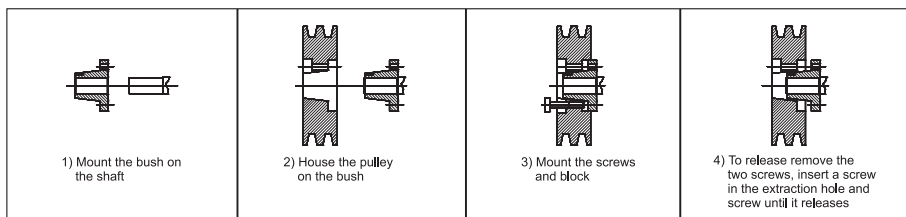

FIG. 25 (Assembling the pulleys)
**5.6.3- Assembling the electric motor (Execution 12 - 9 Arrangement 18 - 19) (FIG. 25)****⚠ CAUTION**
After having screwed the electric motor, the correct assembly of the pulleys has to be performed (see assembling instructions **FIG. 25**).